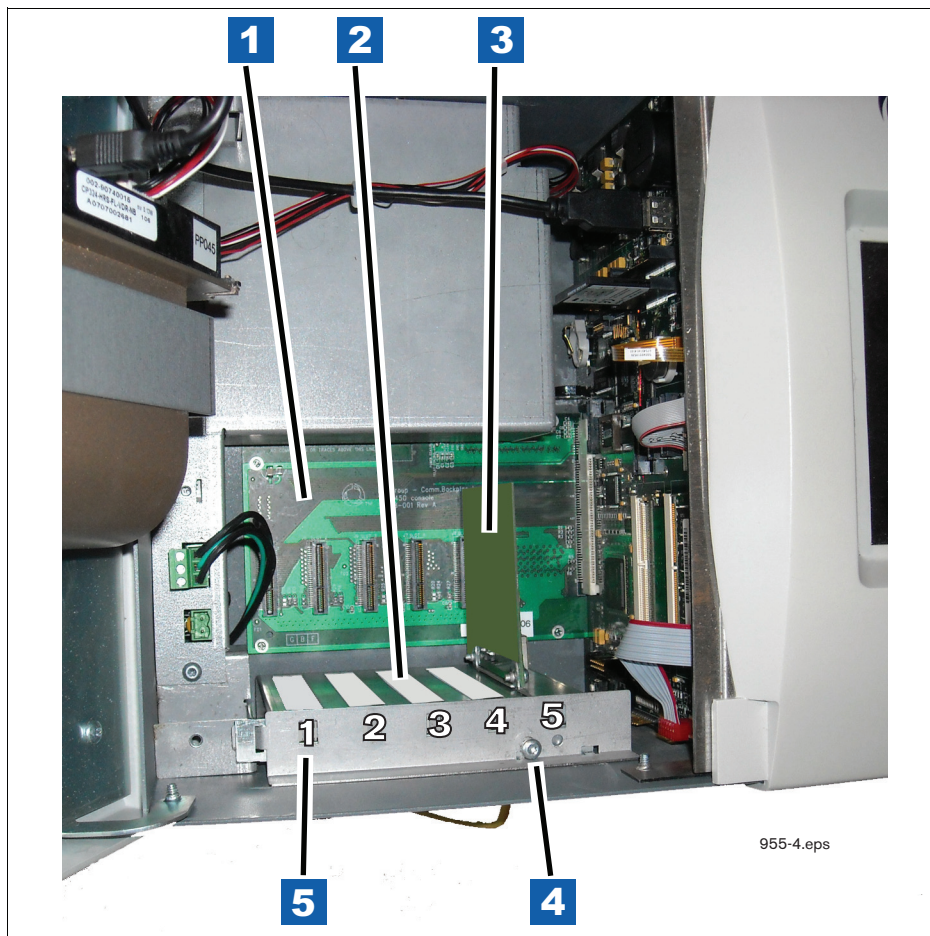

Figure 7. Comm Module Bay
7. Remove the Comm panel blank cover (item 3 in Figure 7) from the desired slot by punching it out towards the inside of the console or using pliers to remove it from the inside of the console. Be careful not to damage any internal components in the process of removing the blank cover.
9. Replace the Comm module clamp (item 4 in Figure 7) and tighten the screw.
LEGEND FOR NUMBERED BOXES IN Figure 7
3. The Comm Bay is divided into 5 communication slots numbered from 1 to 5 going left to right (see Figure 7).
5. Loosen the #8 taptite screw securing the comm module clamp until you can remove the clamp (item 4 in Figure 7).
7. If slot 5 of the console is not occupied, then remove the Comm panel blank cover in the desired slot by punching it out towards the inside of the console or using pliers to remove it from the inside of the console (item 2 in Figure 7). Be careful not to damage any internal components in the process of removing the blank cover.
11. Loosen the #8 taptite screw securing the comm module clamp until you can remove the clamp (item 4 in Figure 7). Remove the technician programming Ethernet/ USB communication module from slot 5.